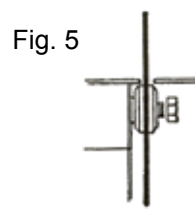

Fig. 5
- Slide the second flange next to the blade and tighten the arbor nut securely (Fig. 5).